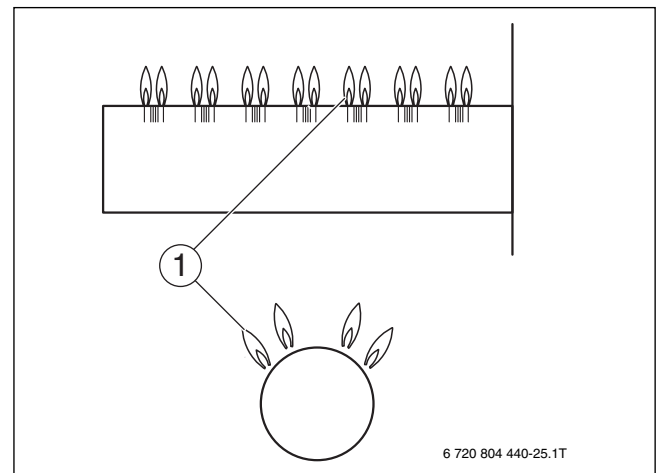

Fig. 25 Main burner
- Test the flame rod by closing the gas shut-off. The main burner flame (→ figure 25) and the ignition flame are extinguished. After no more than six (6) seconds the main gas solenoid valve on the gas valve must close with an audible noise. If the gas valve does not operate correctly, turn ON/OFF knob on the gas valve clockwise to the OFF position immediately. Close the main gas shut-off and disconnect the heating system from the main power source and contact the customer service technician or the gas company.